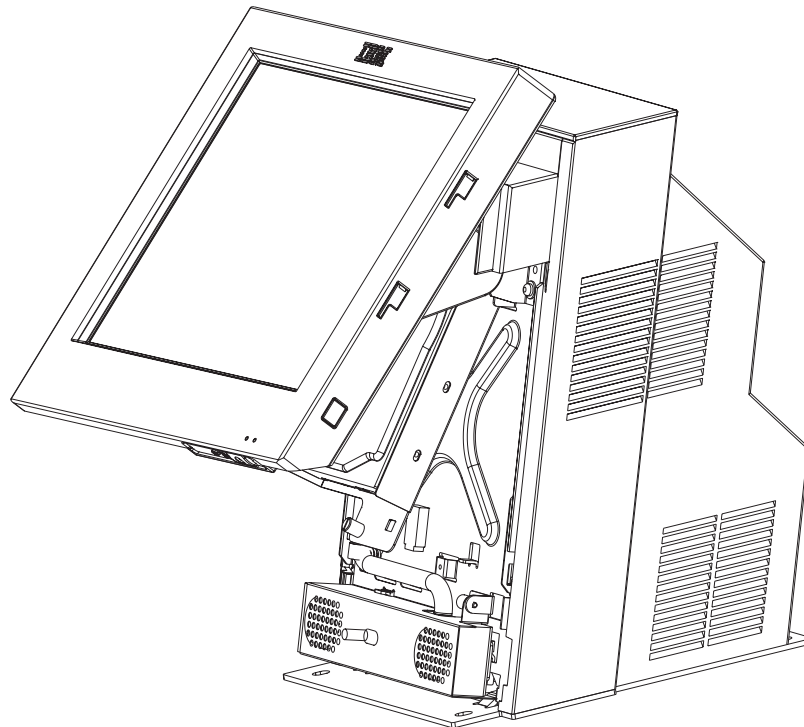

Figure 18. HDD installation. For clarity, this figure shows additional components removed; however, you do not remove these to remove the HDD.
2. As shown in Figure 18, tilt back the tablet.